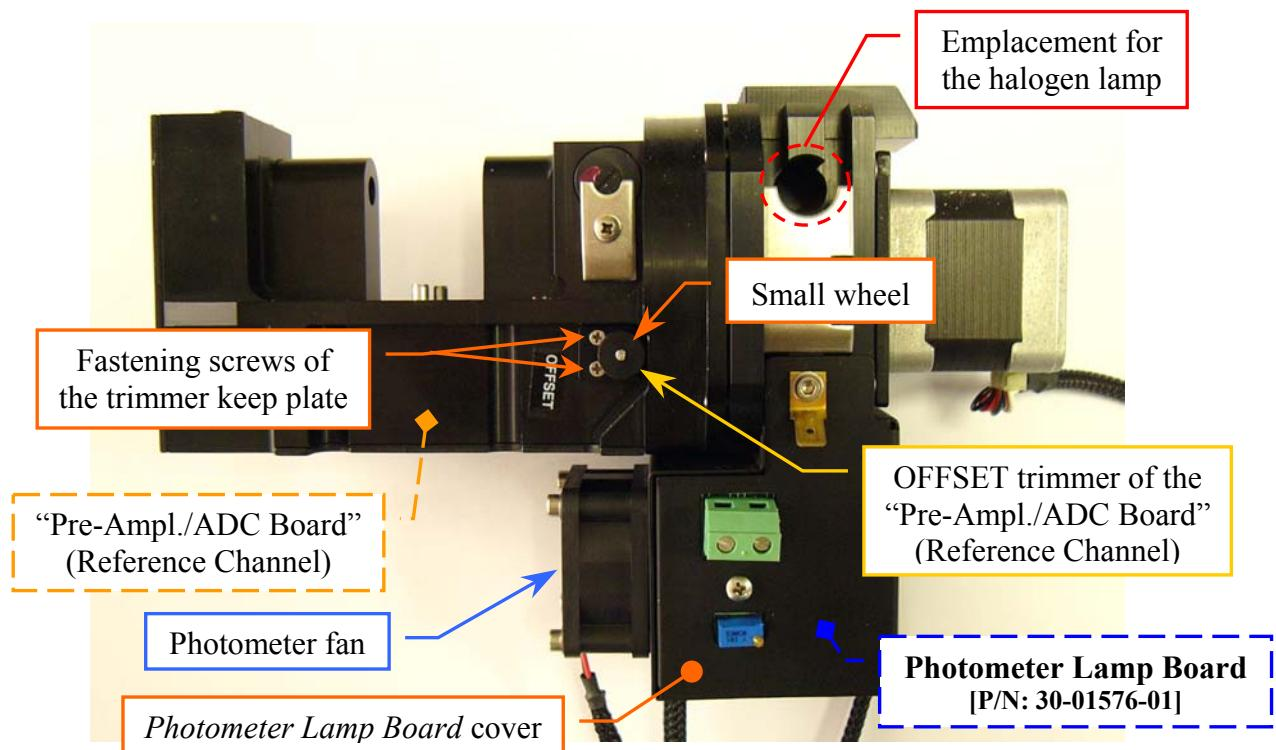

Fig. 61 – OFFSET trimmer of the “Pre-Ampl./ADC Board” (Reference Channel)
- Click the "START Reference Channel Conversion" button (in the “Dark” position) and make sure that the adjacent text box shows a counts value equal to **100 ± 50** . If it not be so, turn the OFFSET trimmer of the “Pre-Ampl./ADC Board (Reference Channel)” in order to set the correct counts value (**Fig. 61**).
5. Take out the Photometer Halogen Lamp from its emplacement on the Photometer (Fig. 61).
3. Unscrew the two keep plate screws of the external small wheel of the OFFSET Trimmer of the Reference Channel board (**Fig. 61**), then remove the small wheel (together with its keep plate) from its hole.
9. Replace the external small wheel in the hole of the OFFSET Trimmer of the Reference Channel board, make sure that the small wheel has a grip on the board trimmer screw and screw the two small wheel keep plate screws (**Fig. 61**).